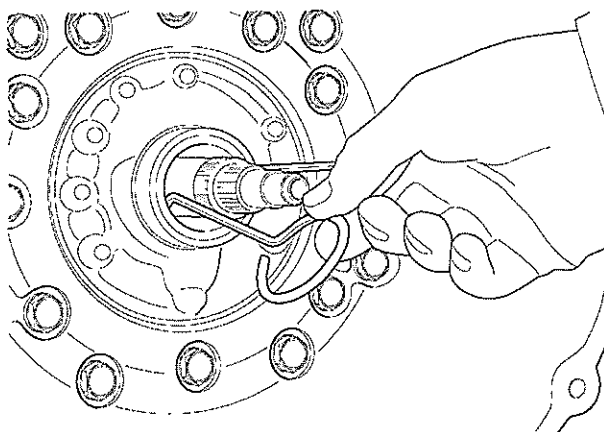

Fig 13 Front rotary shaft seal ring
21.3 Remove rotary shaft seal ring with puller hooks (Table 1, Ser 2) (see Fig 13).